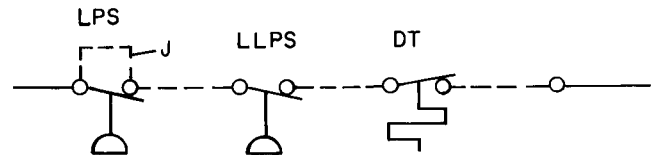

Fig. 23 — Defrost Thermostat with Jumper on Low-Pressure Switch and New Liquid Line Low-Pressure Switch Installed
3. **Winter Start Control** is required on all 50DL units. Jumper low-pressure switch to make it inactive. DO NOT RELOCATE. Install new liquid line low-pressure switch at liquid line service valve and reset it for 5 psig. (Low-pressure switch, Carrier Part No. HK02AB026, preset at 5 psig, is recommended.) When required by the application, install a defrost thermostat (Carrier Part No. 50BB900001 or HH22UA025) on evaporator coil to provide freeze-up protection lost by jumpering low-pressure switch. (See Fig. 23)